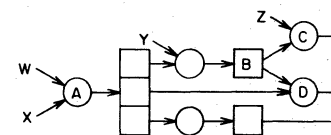
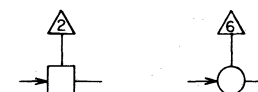

Figure 3. Inverter Networks
Figure 4. Test Point Symbols
Figure 3 shows an example of an inverter network. Because multiple outputs are identical, Figure 4 shows only one arrow in cases where an inverter (A) serves as the single input to several succeeding inverters. In more complex inverter networks, multiple arrows are used (B to C and D because B is not the only input to C or D).
A test point performs no logic function. Logic diagrams show the test point as a triangle (see Figure 4). Test points are numbered from 1 to 6.